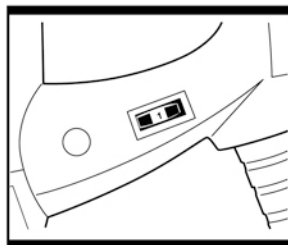

Fig. 6
6. VARIABLE SPEED SWITCH (Fig. 6)